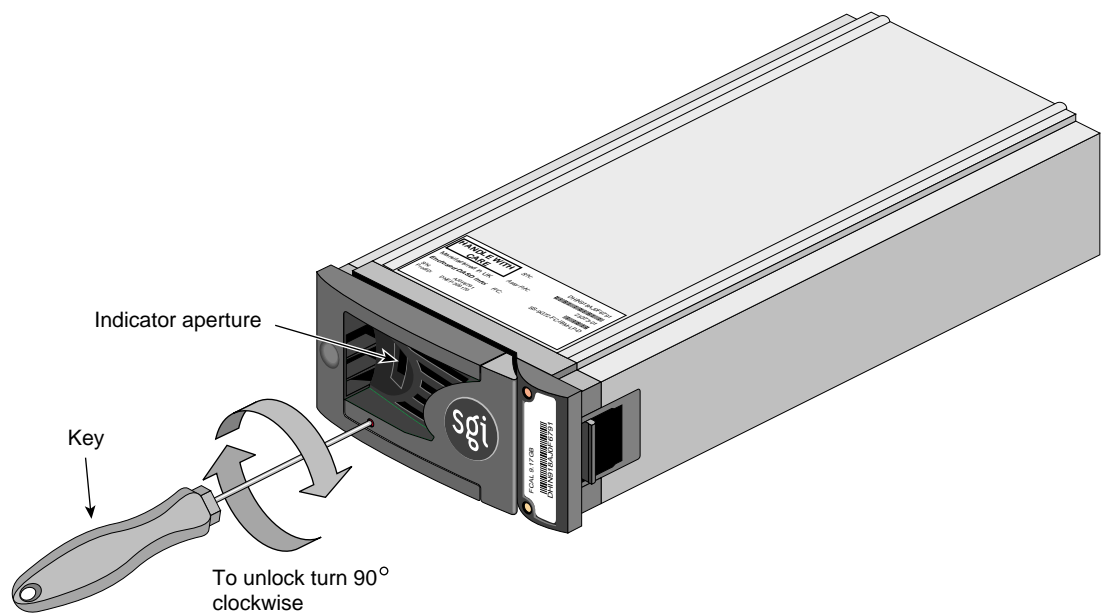

Figure 6-2 Unlocking the Disk Drive Module (Disengaging the Antitamper Lock)
Drives are shipped with the locks set in the unlocked position. However, if a drive is locked, insert the key (included with the disk drive) into the socket in the lower part of the handle trim and turn it 90 degrees clockwise until the indicator visible in the center aperture of the handle shows black. See Figure 6-2.
- Carefully insert the lock key provided into the cutout in the handle trim, as shown in Figure 6-2.
- Rotate the key 90 degrees clockwise until the indicator in the handle shows black.